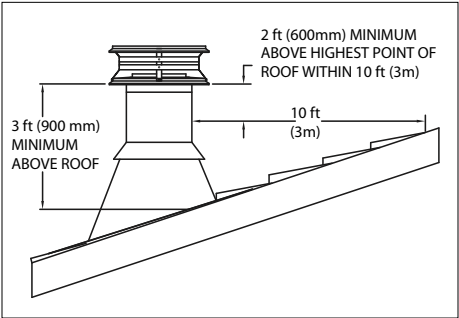
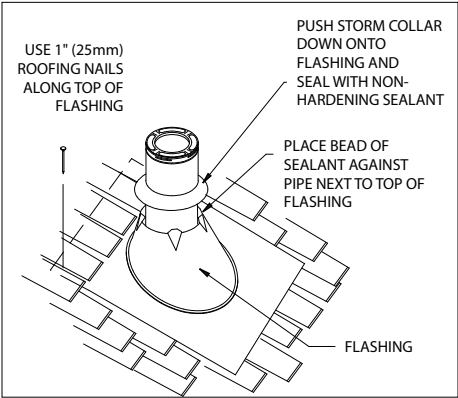

Figure 1
Figure 13
The National Building Code of Canada states: "1) A chimney flue shall extend not less than a) 900 mm (3 feet) above the highest point at which the chimney comes in contact with the roof, and b) 600 mm (2 feet) above the highest roof surface or structure within 3 m (10 feet) of the chimney." In the US, the National Fire Protection Association Standard #211 states: Chimneys shall extend at least three feet above the highest point where it passes through the roof of a building, and at least two feet higher than any portion of a building within ten feet." (**Fig 1**) DuraPlus HTC chimney can be installed up to 40-feet (12.2 m) when using a Ceiling Support or single Tee Support. If using two Tee Supports, DuraPlus HTC chimney can be installed up to 80-feet (24.4
10. Attach Flashing: In new construction, assemble the Chimney Sections to a point above the roof, then slip the Flashing over the chimney. On an existing roof, center and install the Flashing before extending the chimney above the roof. Allow space to permit sliding the next Chimney Section up through the Flashing. Always insure the chimney remains vertical (use a level), and that at least a 2-inch (50 mm) clearance to combustible materials is maintained all around. Install the upper edge of the Flashing under the roofing. Nail to the roof along the upper edge and down each side with 1-inch (25 mm) roofing nails. Do not nail the lower edge of the Flashing (**Fig 13**). Be sure to follow local building practices, as needed. Seal all nail heads with a non-hardening waterproof sealant. On flat or tarred and graveled roofs, nail and seal the Flat Roof Flashing to the roof on all sides with roofing compound. Do not put screws through the Flashing into the Chimney Pipe.
11. Finish Top: Apply a high-temperature (500°F/260°C), non-hardening waterproof sealant around the chimney at the point where the Storm Collar will meet the chimney just above the Flashing. (**Fig 13**). Slide the Storm Collar down over the chimney to the top of the Flashing. Tighten and seal the Storm Collar against the sealant. After installing sufficient Chimney Sections to meet the height requirement (**Fig 1**), attach the Chimney Cap onto the top of the chimney by holding the collar of the cap and twist locking it clockwise onto the chimney. Do not hold upper portion of the cap and twist, as this may damage the cap. The Chimney Cap can be removed for chimney cleaning as described in the Chimney Maintenance section of the instructions. Use an Extended Roof Bracket if the chimney extends more